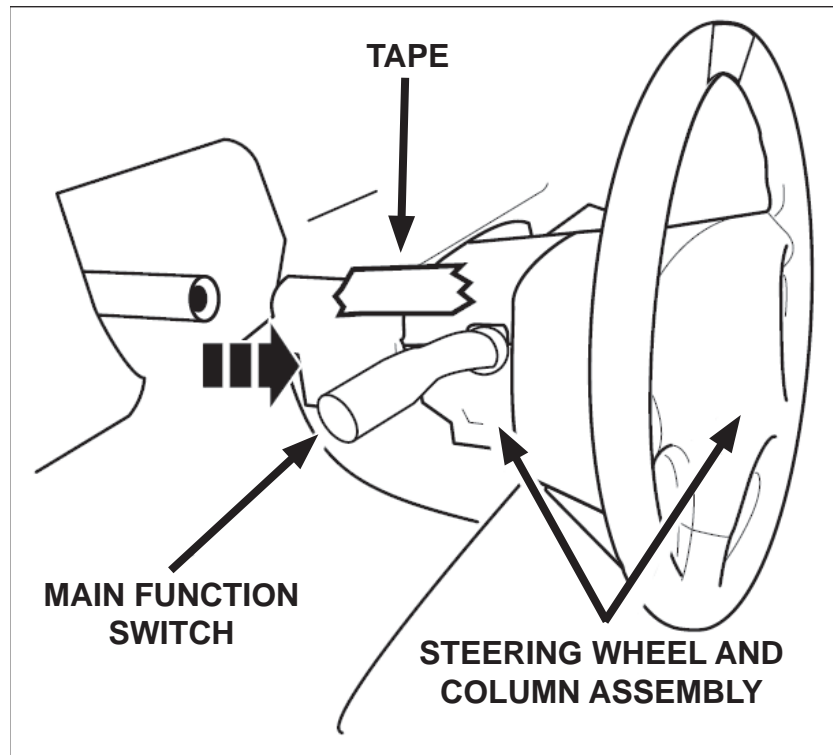

FIGURE 9
13. Tape the wheel to the Main Function Switch (MFS) to prevent rotation of the clockspring. Pull out and remove the steering wheel and upper column assembly as a single unit. See Figure 9